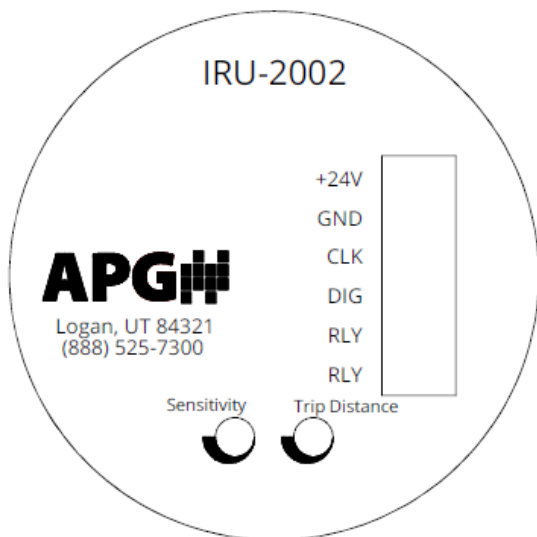
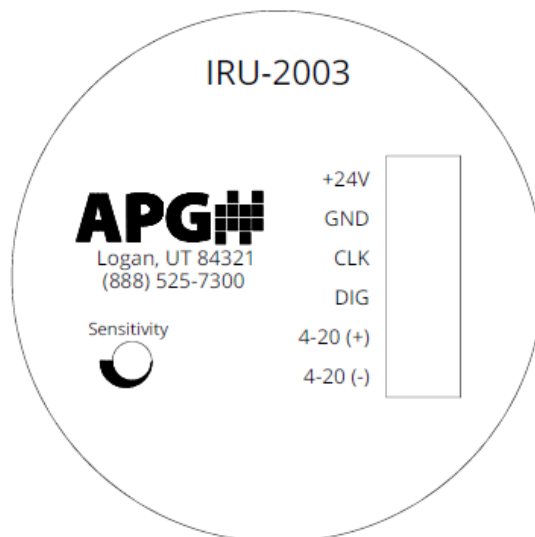

Figure 2.1
Figure 2.2
Potentiometers for setting or adjusting Trip Distance (IRU-2002 only) and Sensitivity (IRU-2002 and IRU-2003) are located inside the sensor housing along with terminal strips (See Figures 2.1 and 2.2). Both settings can also be controlled via the I2000SWR software (See Figure 3.3).
- For IRU-2002 and IRU-2003 sensors, system wiring must be connected to internal terminal strips prior to physical installation. (See Figures 2.1 and 2.2)
For IRU-2002 sensors, Sensitivity/Trip Point Control is used to select between potentiometer or software control of Sensitivity and Relay Trip Point. (See Figure 2.1) For IRU-2003 sensors, Sensitivity/Trip Point Control is used to select between potentiometer or software control of Sensitivity. (See Figure 2.2)